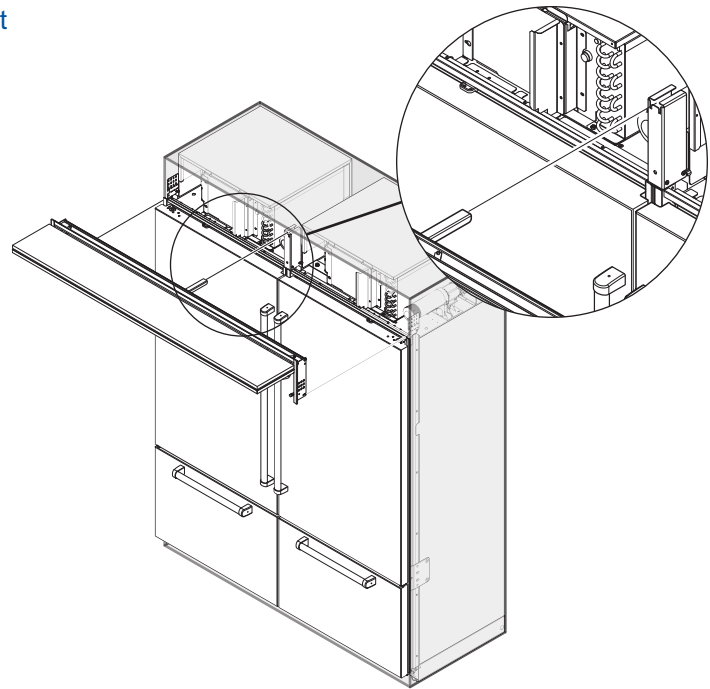

Figure 13. Install Dual Grille
3. Lift dual grille assembly up, align slide bracket with slot of dual grille support bracket and push grille assembly toward units so that the slide bracket slides into the slot of the support bracket (See Figure 13).